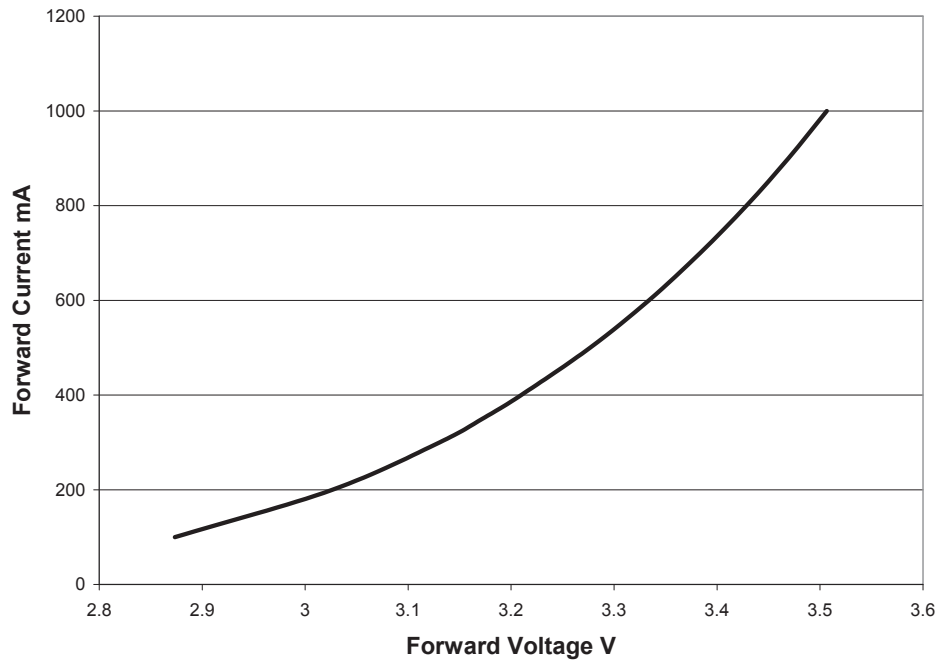

Figure 8. Forward current vs. forward voltage for White, Green, Cyan, Blue and Royal-Blue.
*Dynamic resistance is the inverse of the slope in linear forward voltage model for LEDs. See figures 8 and 9.
2. Dynamic resistance is the inverse of the slope in linear forward voltage model for LEDs. See figures 8 and 9.